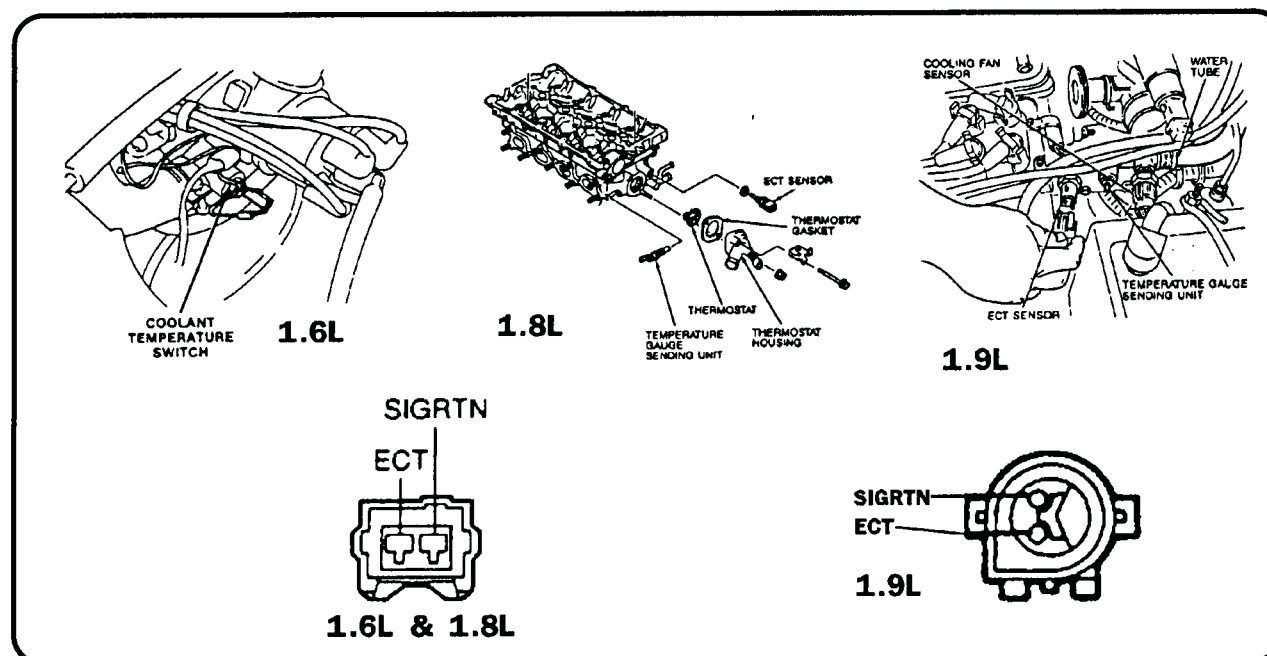

Figure 72
**Engine Coolant Temperature Sensor:** The ECT sensor can be checked using a multi-meter set to OHMS. Figure 72 shows the location of the sensor for 1.6L, 1.8L, and 1.9L engines with connector views. Refer to the chart following figure 72 for the resistance values.